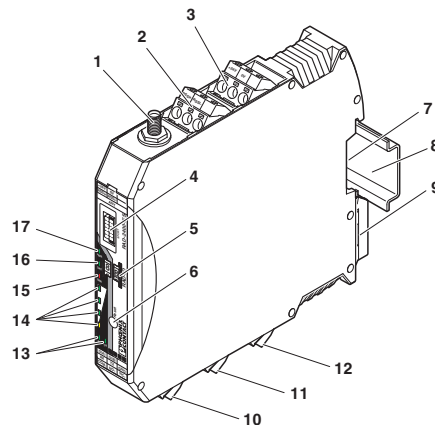

Figure 4-1 RAD-2400-IFS and RAD-868-IFS structure
- Connect the single wires of the data cable to the COMBICON plug-in screw terminal block (Figure 4-1, item 10).